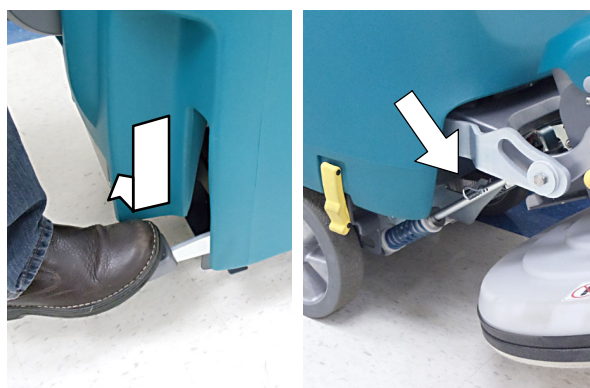

FIG. 9
4. Raise the burnishing head and remove key. Locate the pad pressure adjustment cotter pin (Figure 9).